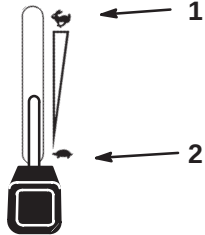

Figure 21
5. Move the throttle control to the fast position before starting a cold engine (Fig. 21).
1. Push the PTO to off (Fig. 21).
2. Move the throttle lever midway between the slow and fast positions (Fig. 21).